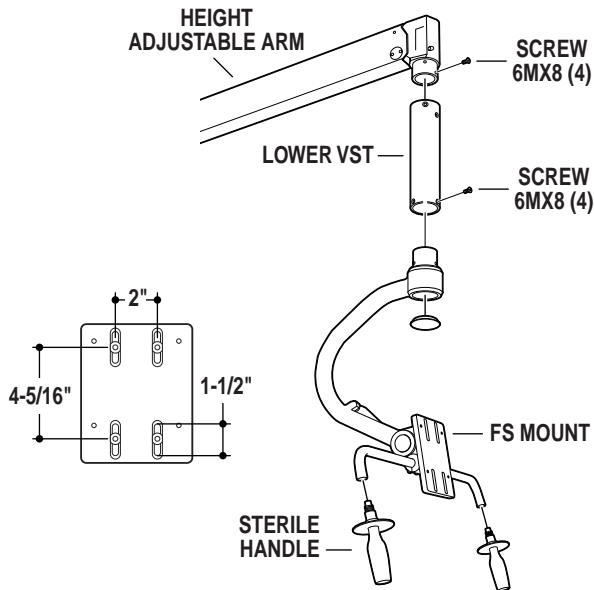

**Figure 11.**
- Install the Height Adjustable Arm in the Upper VST and secure with (6) M6 x 8 screws. See figure 11.